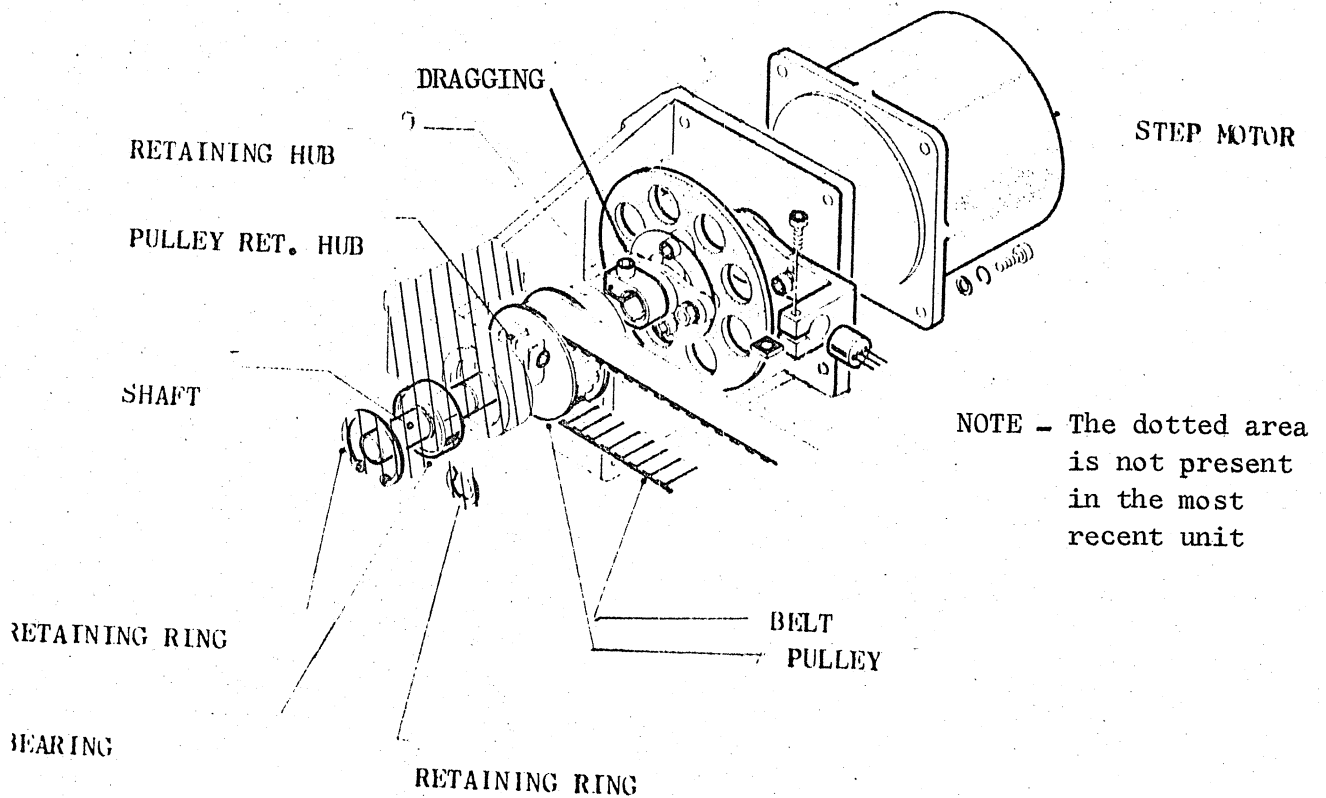

FIG. 8.23
The first step is only applicable with the left pulley fixed (See fig. 8.23).
- . Loosen the pulley ret. hub fixing screws (See fig. 8.23)